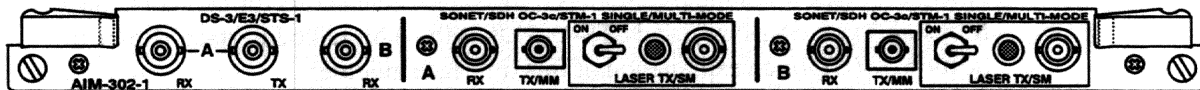
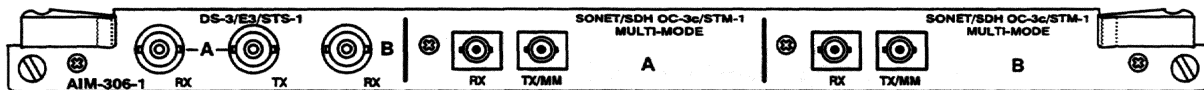

Figure 6-1 AIM-302-1: DS-3/E3/STS-1 Metallic Interface and SONET/OC-3c and SDH/STM-1 Optical Interface
Figure 6-2 AIM-306-1: DS-3/E3/STS-1 Metallic Interface and SONET OC-3c and SDH STM-1 Multi-Mode Optical Interface
If you are testing single-mode fiber optical data, the AIM-302-1 (shown in Figure 6-1) should be the installed module. AIM-302-1 is a combination interface used for *either* metallic or optical data: DS-3 Metallic (44.736 Mbps), E3 Metallic (34.368 Mbps), STS-1 Metallic (51.84 Mbps), SONET OC-3c Optical, and SDH STM-1 Optical Interfaces. Refer to Section 5.4(A) for a detailed explanation of this interface module.
If you are testing multi-mode fiber optical data, either the AIM-302-1 or the AIM-306-1 will be the installed module. AIM-302-1 is shown in Figure 6-1 and is described in the preceding paragraph; AIM-306-1 (shown in Figure 6-2) is a combination interface used for *either* metallic or multi-mode optical data: DS-3/E3/STS-1 Metallic Interface, and SONET OC-3c and SDH STM-1 Optical Interfaces (multi-mode). Refer to Section 5.4(C) for a detailed explanation of this interface module; refer to Sections 6.2 and 6.3 for cable care and cleaning methods.